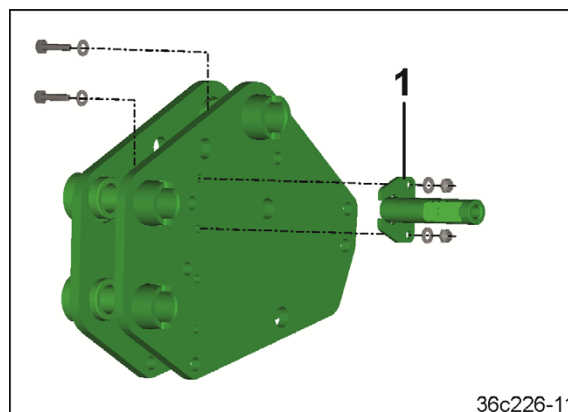

Fig. 111
1. Bolt the holder (Fig. 111/1) onto the upper coupling point.